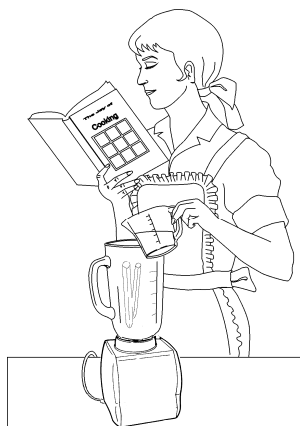

FIG.n.9 - Correct position
- 5 It must be well-positioned to avoid accidents (see FIG. n.9). The body must be perpendicular to the table. The hands must not force parts or obstacle their movement.